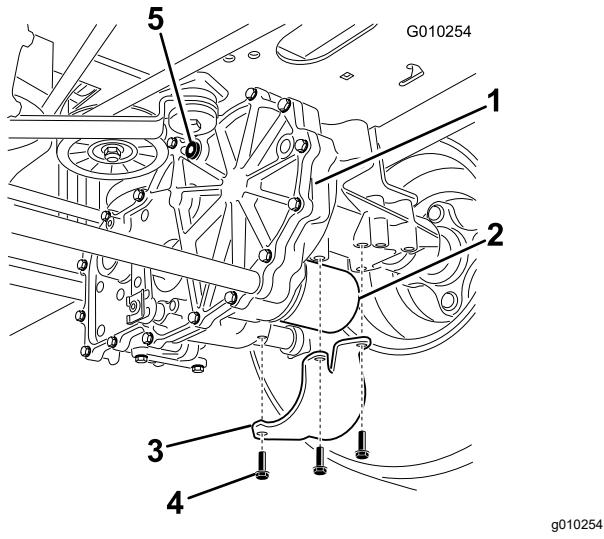

Figure 64
- Locate the filter and guards on each transaxle-drive system (Figure 64).
- Remove the 3 screws securing the filter guard and remove the guard (Figure 64).
- Install the filter guards over each filter that you previously removed (Figure 64).
- Use the 3 screws to secure the filter guards (Figure 64).
3. Install the vent plug (Figure 64).